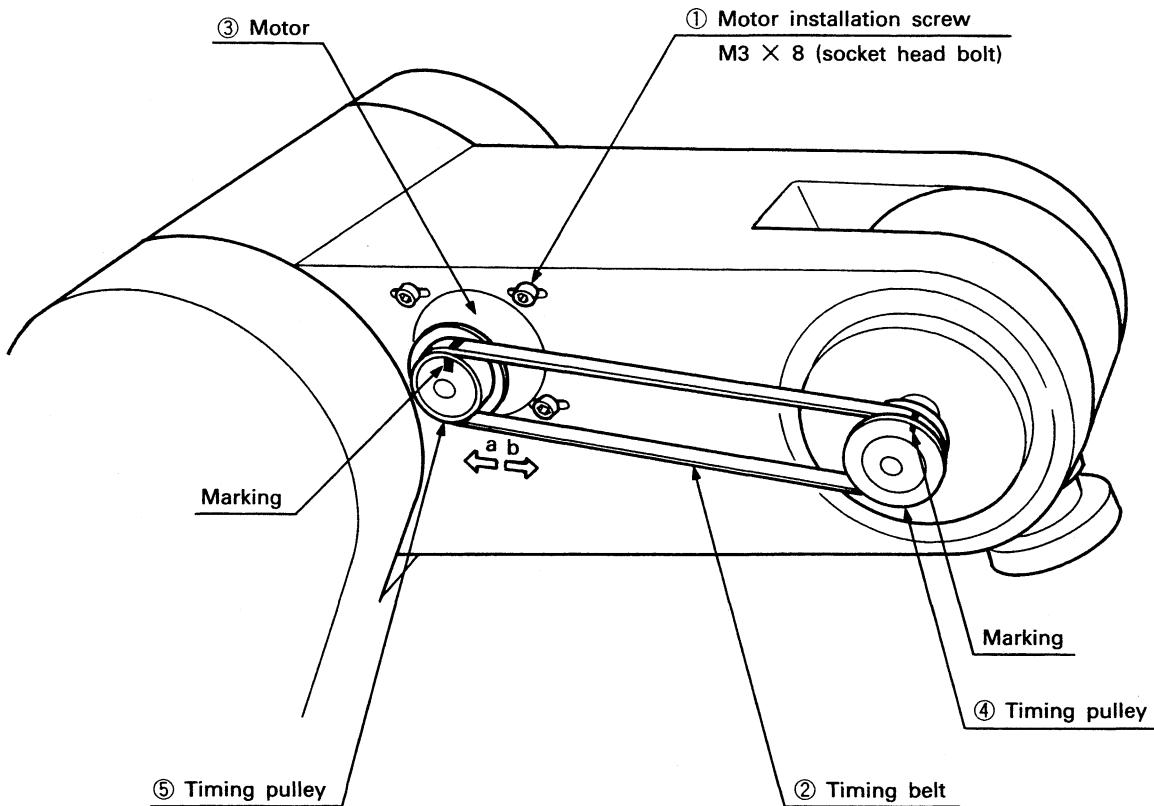
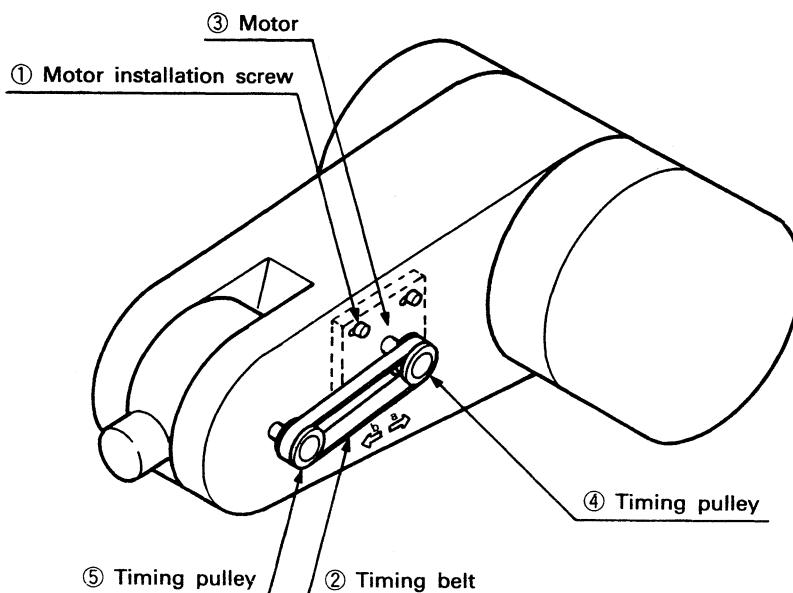
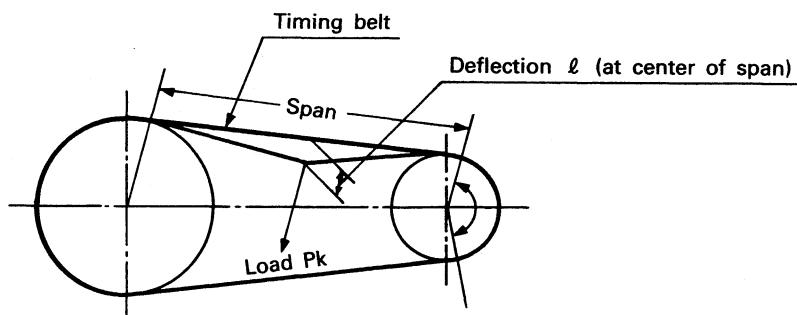

Fig. 4.3.8 Checking, Adjusting and Changing the Wrist Pitch Drive Timing Belt
Fig. 4.3.9 Checking, Adjusting and Changing the Wrist Roll Drive Timing Belt
Fig. 4.3.10 Belt Deflection and Load
- (1) Fig. 4.3.8 outlines the inspection and adjustment procedures of the wrist pitch drive timing belt.
- (2) Remove the pulley cover (L) in accordance with Section 3.2, Removal of Covers.
- (3) Visually check the belt to make sure that it does not develop any of the symptoms given in (1) to (5) in Section 3.4.1.
- (4) Push the belt at its center with a force of approximately 50 to 90gf and ensure that it deflects about 2mm. See Fig. 4.3.10.
- (2) Loosen the three motor installation screws ①.
- (3) While feeling the tension in the timing belt ②, move the motor ③ in the direction of arrows "a" and/or "b". Note that the motor ③ is secured using the three screws in the slots so that they can be moved in the slots.
- (4) Moving the motor in direction "a" tightens the belt; moving it in direction "b" slacks the belt.
- (5) Do not move the motor too far in direction "b" or the belt ② comes off the timing pulleys ④ and ⑤.
- (6) After the belt tension has been adjusted, tighten the three motor installation screws ① securely. Any loose screw results in the belt slackening off.
- (1) Fig. 4.3.8 outlines the replacement procedure of the timing belt.
- (2) Secure the pulleys with care during belt replacement. If the pulleys ④ and ⑤ are misaligned, position misalignment will occur.
- (3) Using a marker, mark alignment pointers on the timing belt ② and timing pulleys ④, ⑤, while ensuring that the belt teeth are in correct mesh with the pulley teeth. See Fig. 4.3.8.
- (4) Loosen the three motor installation screws ① and remove the belt.
- (5) Mark the alignment pointers on the new timing belt. During the procedure, keep the belts tightened.
- (1) Fig. 4.3.9 outlines the inspection and adjustment procedures of the wrist roll drive timing belt.
- (2) Remove the pulley cover (R) in accordance with Section 3.2, Removal of Covers.
- (4) Push the belt at its center with a force of approximately 50 to 90gf and ensure that it deflects about 1.2mm. See Fig. 4.3.10.
- (2) Adjust in accordance with steps (2) to (6) in B. Adjustment of Section 3.4.2 "Inspection, adjustment and replacement of the wrist pitch drive timing belt."
- (1) Fig. 4.3.9 outlines the replacement procedure of the timing belt.
- (2) Change in accordance with steps (2) to (9) in C. Replacement of Section 3.4.2 "Inspection, adjustment and replacement of the wrist pitch drive timing belt."
- 3.4.4 Timing belt tension** Giving an adequate tension to the timing belt is prerequisite for proper drive transmission and sufficient durability. Do not keep the belt too tight or slack: give it appropriate tension so that you feel reaction when pressing it with your thumb. A belt left too slack causes the slack end of the belt to vibrate; a tight belt develops keen noise and vibrates on the tightened end. Adjust the belt tension in accordance with Fig. 4.3.10 and Table 4.3.3 so that deflection  $\ell$  is achieved when load  $P_k$  is applied to the belt.